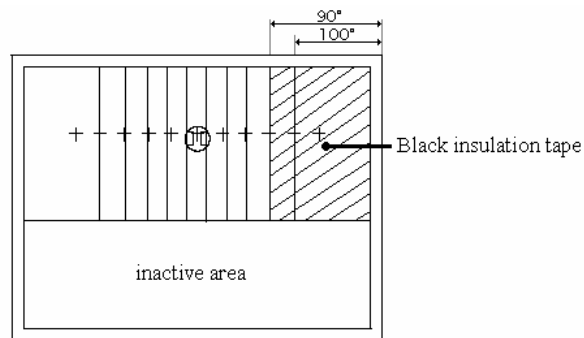

Fig 3: Blocking off sections of the main lens.
- C) The white Main Lens has 11 'windows'. You need to tape over the windows you want to block. For example: If you need a detection arc of 90°, you will need to block off two end windows. (*see fig 3*)